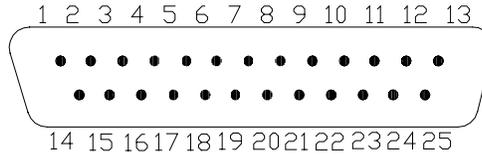

Figure 2. PPMS system bridge cable D-shell connector.
8. Use your meter to measure the resistance across pins 3 and 16 of the cable. See Figure 2. This value should match the value recorded in step 5. Record this value:_____.
9. Use your meter to measure the resistance across pins 4 and 17 of the cable. See Figure 2. This value should match the value recorded in step 4. Record this value:_____.